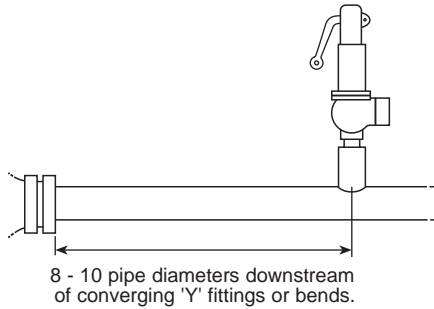
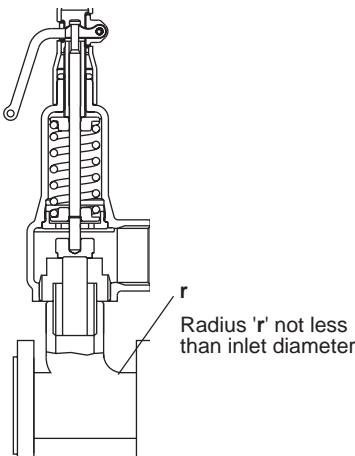

Fig. 6
Fig. 7
- 6.4** The inlet pipe connection should not be smaller than the valve (see Figures 7 and 8).
BS 6759 makes the following recommendations to prevent these problems. Valve should be fitted 8-10 pipe diameters downstream of converging or diverging fittings or bends (Figure 6). Inlet branches should be as Figure 7 or 8.